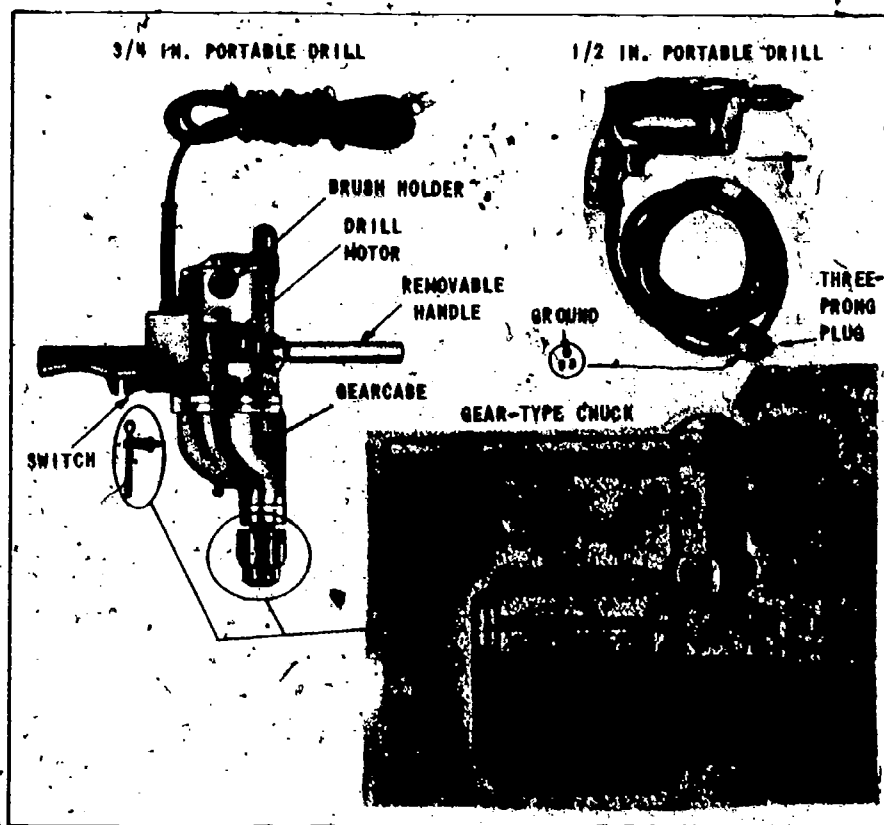

Fig 1-18. Portable electric drills and gear chuck.
a. **Drill.** The drilling machines most used by engineer equipment mechanics are the 1/2- and 3/4-in. portable electric drills (fig 1-18). The 1/2-in. medium-speed electric drill is used with high-speed steel twist drills. It is also used to turn reamers and hones. The 3/4-inch slow-speed heavy-duty electric drill is used with the carbon steel twist drills. Electric drills are equipped with the gear-type chuck, but can be changed to the socket-type chuck (not shown). They operate from a 110-volt ac or dc electrical source. The size of the electrical drill indicates the maximum size of the twist drill (bit) that should be used. For example, the 1/2-in. drill should not be used to bore a hole larger than 1/2 in. in diameter.